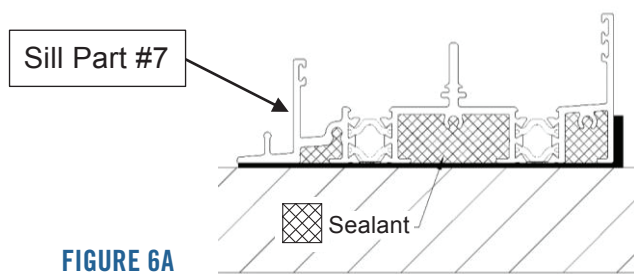
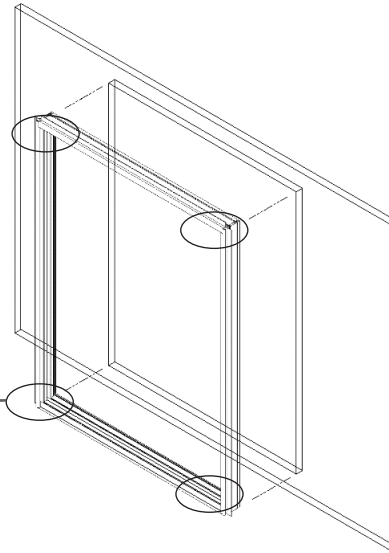

FIGURE 6A
FIGURE 6B
10. Apply a continuous bead of sealant across the entire sill of the opening where the door frame will sit as shown in figure 6a and insert door frame into the opening as shown in figure 6b. (Sealant should conform to AAMA 802.3-16 and 803.3-16). After frame is installed, seal all 4 corners per detail 6b and 6c.